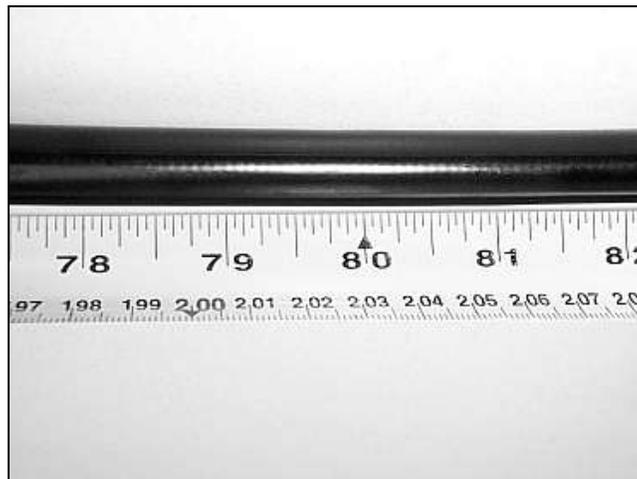

Figure 1 - Measure and mark the cable.
4.1 Measure and mark the cable at the appropriate stripping length (Figure 1). Consult the closure instructions for the required length of cable jacket to be removed.